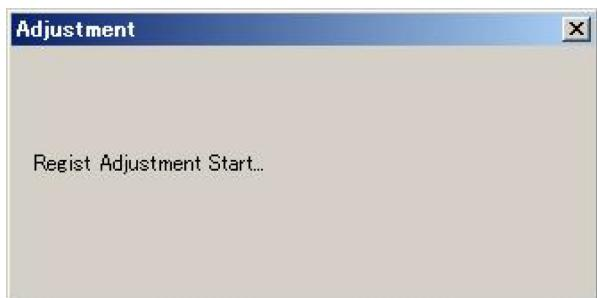

Fig. 5-304
- 2) Select "Regist" from the Service window. The state-displaying window appears (Refer to Fig.5-304).